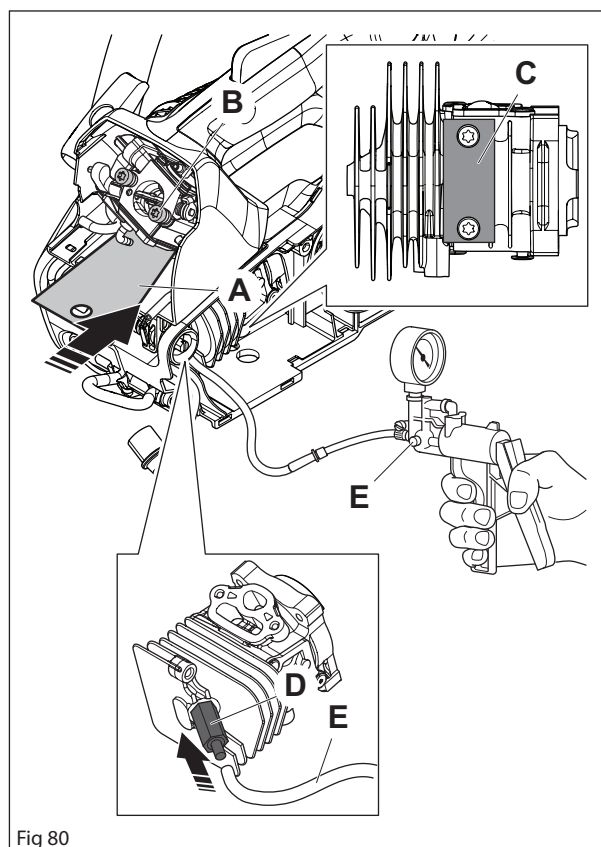

Fig 80
Slide the cover plate (A) (502 54 11-02) under the carburetor and tighten, using the carburetor screws (B) as outlined in Figure 80.
Remove the spark plug and screw in the 576 38 48-01 pressure tester (D). Connect the 531 03 06-23 pressure gauge (E). See Figure 80.